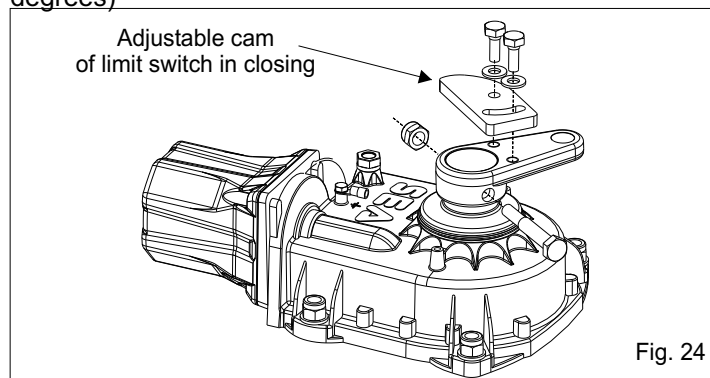

Fig. 24
6.2. Mount the cam of the limit switch as shown in Fig. 24, bring it to the stop with the connecting rod and fix it with the special screws.